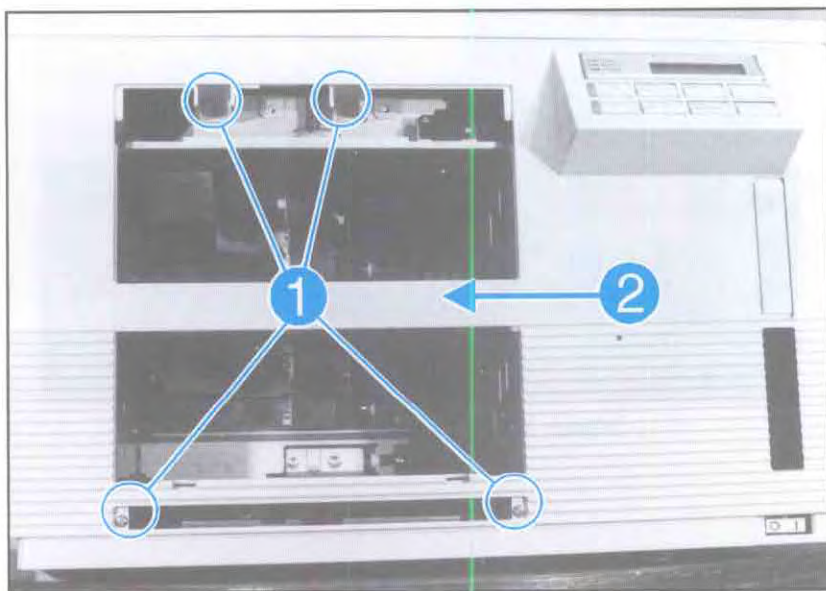

Figure 6-6. Front Cover (continued)
6. Remove the (4) screws (2 upper and 2 lower), shown in Figure 6-6, callout 1.
7. Grasp the crossmember between the two cassette cavities and pull outward to release the (2) pressure clips (see Figure 6-6, callout 2).